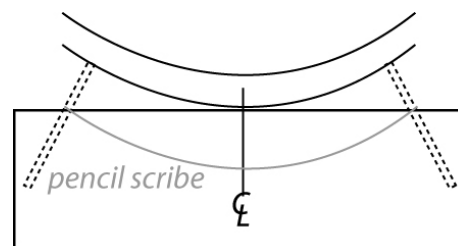

Fig. 8
7. Using a pencil and your fingers (or a carpenter's scribe) to maintain an equal distance from the curved back wall, scribe a cut line along the top of the shelf to match the curve of the wall (Fig. 8).